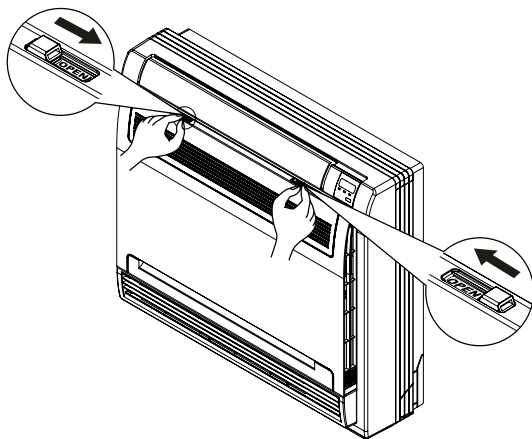

Figure 3.1.1
- 1) Slide the two switches of frontal grille toward the middle, as it is shown in Figure 3.1.1.